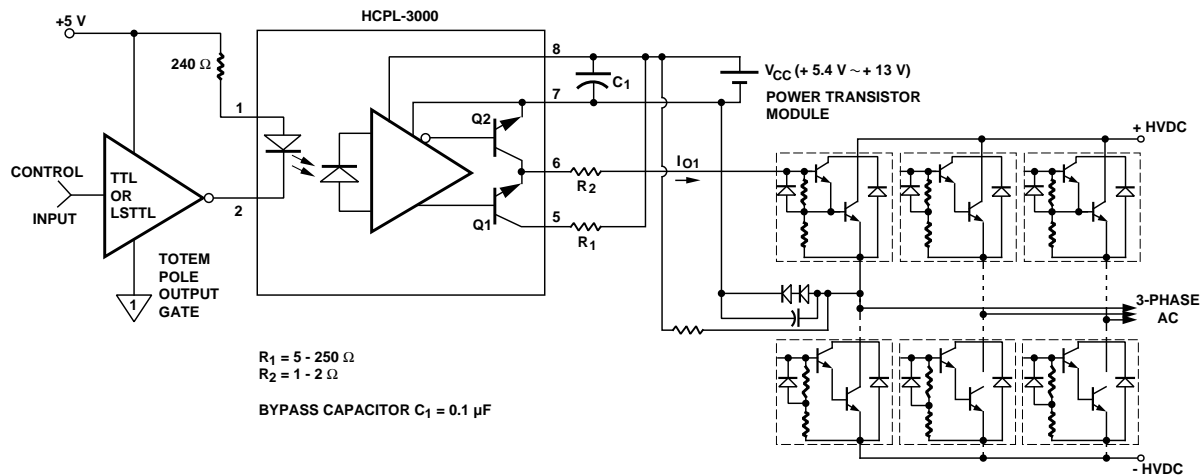

Figure 1. Recommended Output Transistor Protection and Typical Application Circuit.
THE USE OF A 0.1 $\mu$ F BYPASS CAPACITOR CONNECTED BETWEEN PINS 8 AND 7 IS RECOMMENDED. ALSO, CURRENT LIMITING RESISTORS ARE RECOMMENDED (SEE FIGURE 1, NOTE 2, AND NOTE 7).
amounts of current. Figure 1 describes a recommended circuit design showing current limiting resistors  $R_1$  and  $R_2$  which are necessary in order to prevent
- $R_1$  sets the base current ( $I_{O1}$  in Figure 1) supplied to the power bipolar device.  $R_2$  limits the peak current seen by Q2 when the device is turning off. For more applications and circuit design information see Application Note "Power Transistor Gate/Base Drive Optocouplers."